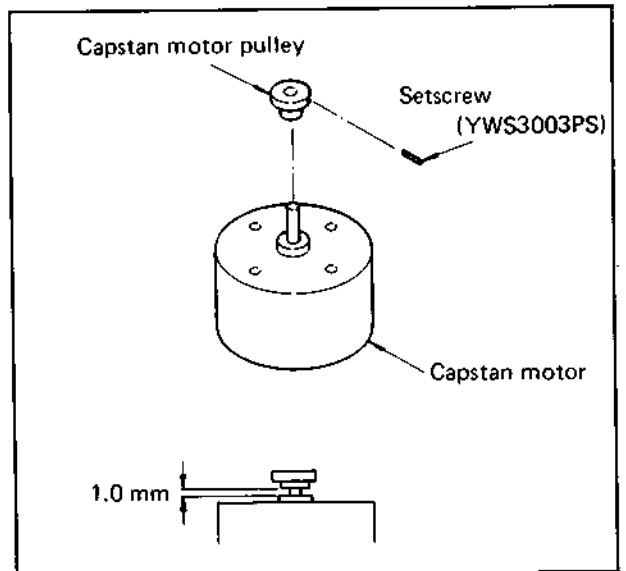

Fig. 5-21
2. Use a metric hex key to loosen the setscrew and remove the capstan motor pulley (Fig. 5-21).